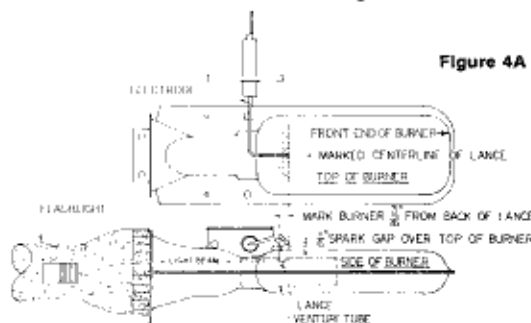

Figure 4A
- Remove burner from combustion chamber by removing six (6) screws which attach the burner to the chamber and air baffles (plates).
- Light will reflect off the lance in the venturi of the burner and shine through a portion of the two (2) rolls of burner ports in the top of the burner.
- Adjust electrode so the electrode probe is positioned along the marked center line of the burner lance and the tip of the electrode terminates 3/16" from the back of the lance. (At the line marked in Step 2-c.) (See Figure 4A.)